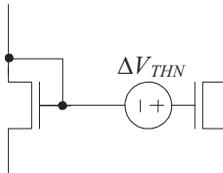

Figure 20.53 Modeling an offset voltage in SPICE (or for hand calculations).
- 20.4** A threshold voltage mismatch in SPICE can be modeled by adding a small voltage source in series with the gate of one of the MOSFETs, as seen in Fig. 20.53. Show, using SPICE, that Eq. (20.8) is valid.